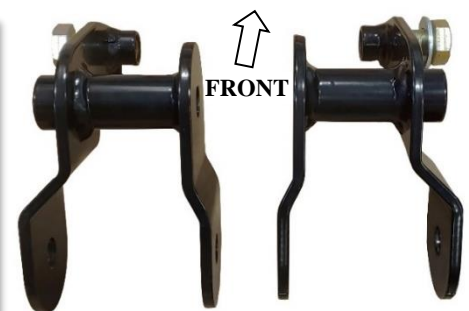

Figure 6
- 3) Identify the left and right QA1 front leaf spring mounts. **(Figure 6)**